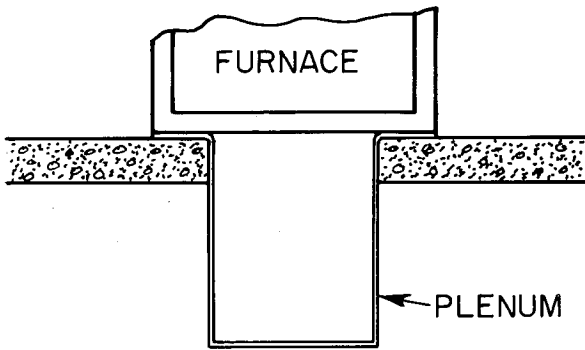

Fig. 5—Furnace on a Concrete Slab (Non-Garage Installation)
- Place plenum and furnace as shown in Fig. 5.